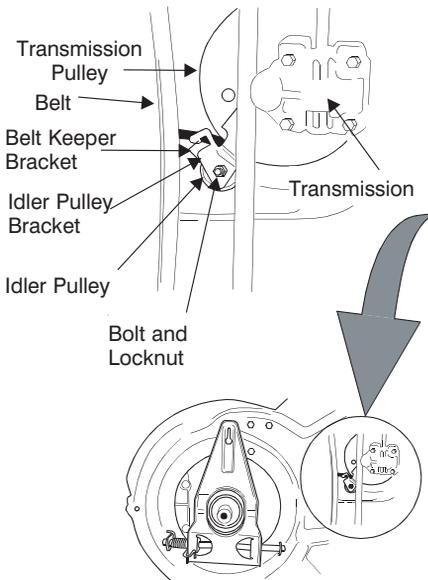

Figure 22
11. Slide the belt out from between the belt keeper bracket and the idler pulley. See Figure 22.
18. Tighten the idler pulley bolt and locknut  $\frac{1}{2}$  turn using two  $\frac{7}{16}$ " wrenches. See Figure 22.